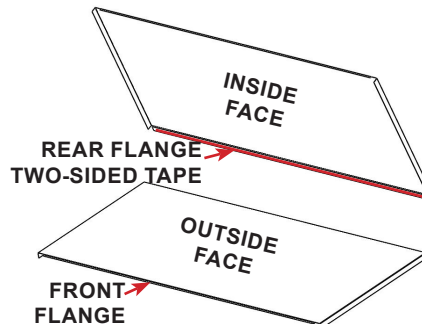

FIGURE 2.62 - Top Panel Tape
STEP 15: Remove two-sided tape paper strip to expose the adhesive side of the tape. See FIGURE 2.62